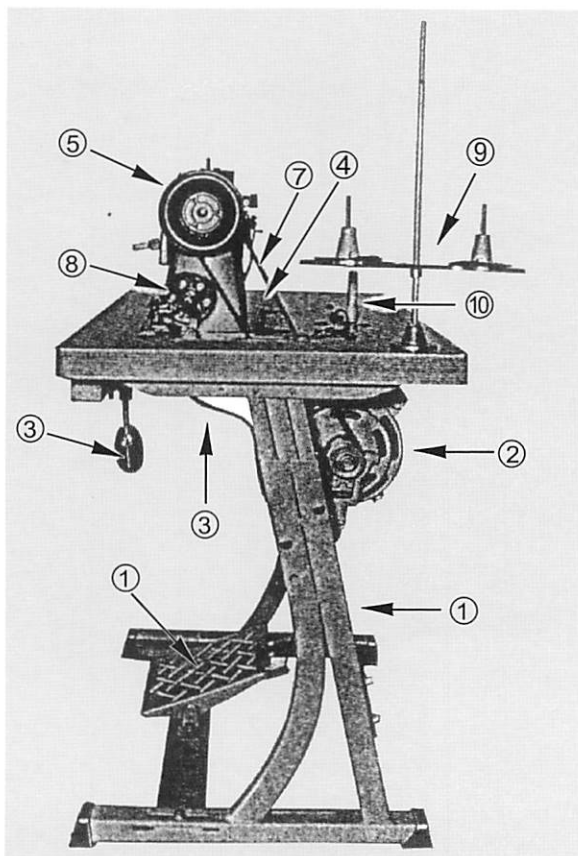

Fig. 1
## SETTING UP THE MACHINE ( Fig. 1)
1. Push a bobbin on the bobbin winder spindle ③ as far as it will go.
2. Pass the thread from the thread stand downward through the eye ① in the tension bracket, then between and around the back of the tension disc ②.
4. Push the lever ④ toward the other side so that the pulley and V belt (⑦ Fig.1) will engage and then start the machine.